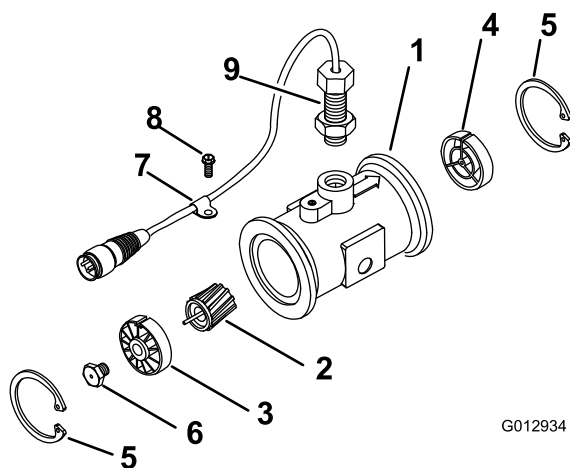

Figure 11
- Remove the retainer ring on the upstream side (Figure 11).